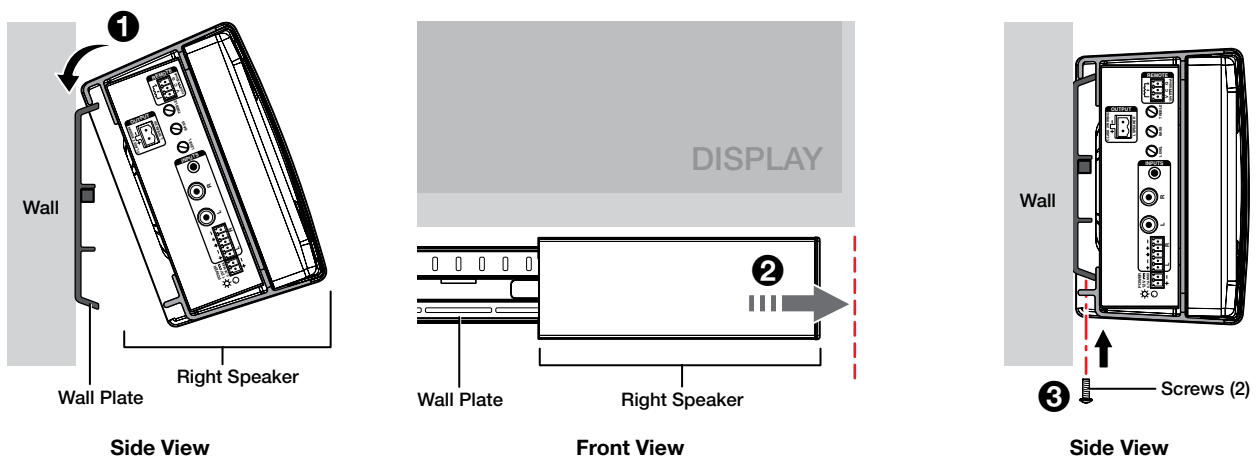

Figure 12. Attaching the Right Speaker to the Wall Plate
2. Hook the top clasp edge of the right speaker assembly over the top rail (see figure 12, ①) of the wall plate and slide it to right end of the wall plate (②) so that the right end of the speaker assembly is aligned with the right end of the display.
3. Tighten the two set screws (③) on the bottom of the right speaker assembly to the bottom rail of the wall plate.